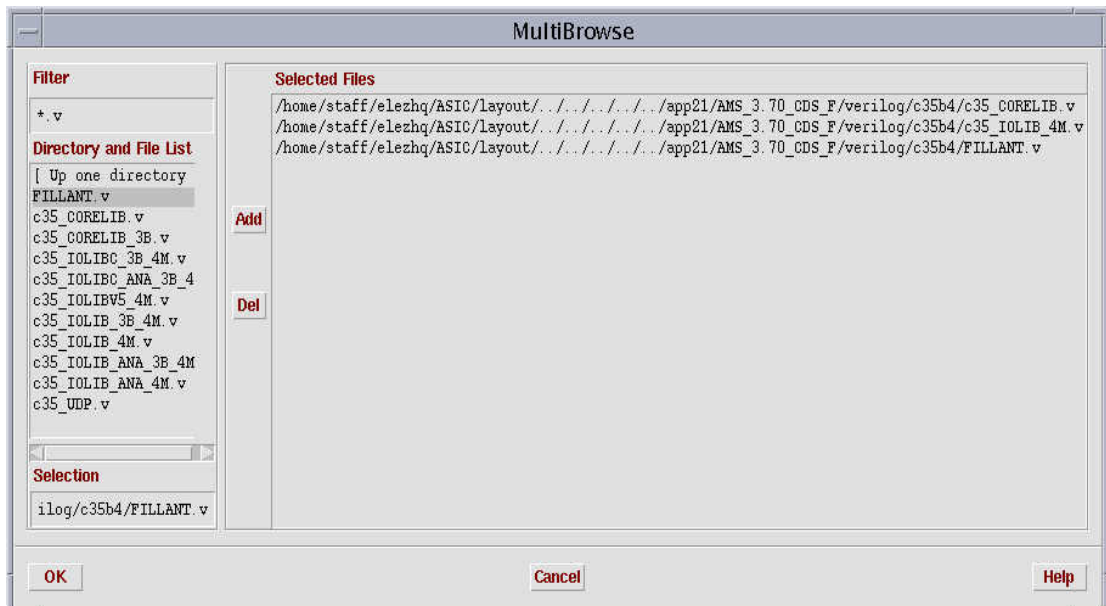

Figure 7-7 Load Verilog code of digital standard cells.
- To load the models of the digital standard cells from the foundry, click on **File→Import→Verilog...** and then click on **Browse...** on the **ImportVerilog** form. Choose the standard cells needed by the design. The models chosen for this example are shown in figure 7-7.